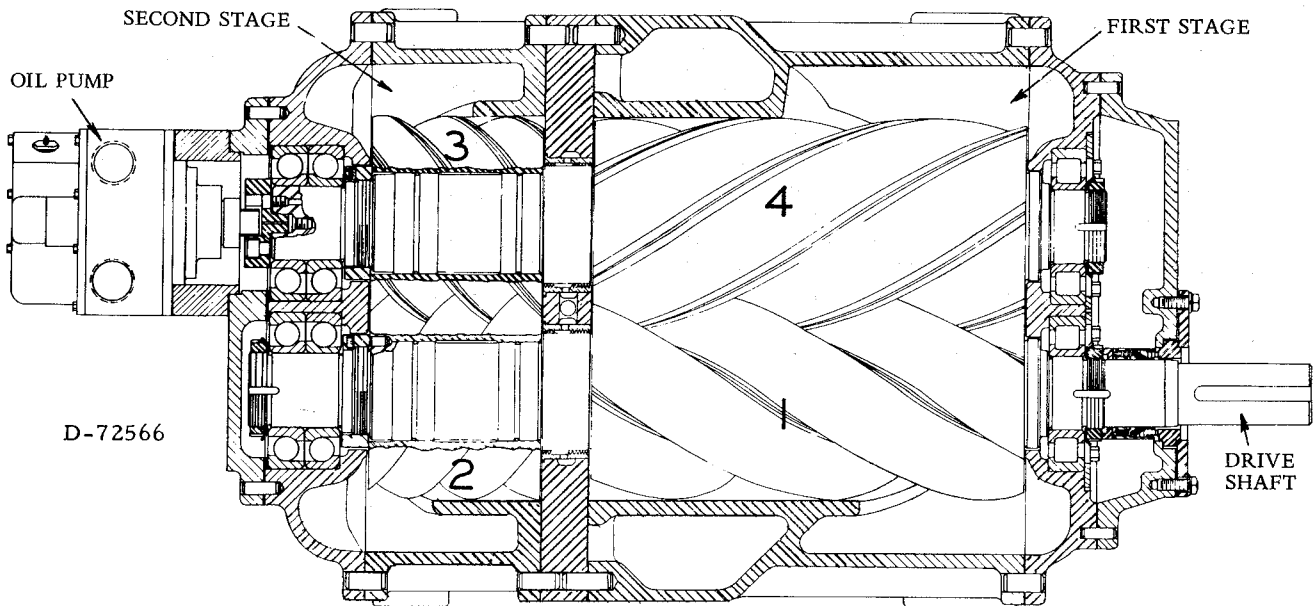

FIGURE 1. — SECTIONAL VIEW OF COMPRESSOR
COMPRESSOR — The Gardner-Denver Model "ET" ELECTRA-SCREW[®] compressor is a two-stage positive displacement rotary machine using helical meshing rotors in two stages to effect compression. Refer to Figure 1. Both rotors are supported between antifriction bearings located outside the cylinder. Single width cylindrical roller bearings are used at the low pressure inlet end of rotors. Two single-row angular contact ball bearings at the high pressure end locate each rotor axially and carry all thrust loads.
COMPRESSION PRINCIPLE (Figures 1, 2 & 3) — Compression is accomplished by main and secondary rotors meshing enclosed by the cylinder walls and end plates. The main (driven) rotor has four helical lobes 90° apart. The secondary (idler) rotor has six matching helical grooves 60° apart to allow meshing with main lobes. Air is drawn into the first stage, compressed to approximately 25 PSIG, and travels internally to the second stage where the compression cycle is completed. The first stage rotors and shaft extensions are cast integral; the second stage rotors are a press fit to the shaft extension.
Power from the driver is transmitted through the drive shaft and the first stage main rotor (1) (Figure 1) to the second stage main rotor (2). The second stage main rotor (2) drives both the second stage secondary rotor (3) and the first stage secondary rotor (4). A cushion of air and oil is maintained between rotors at all times.